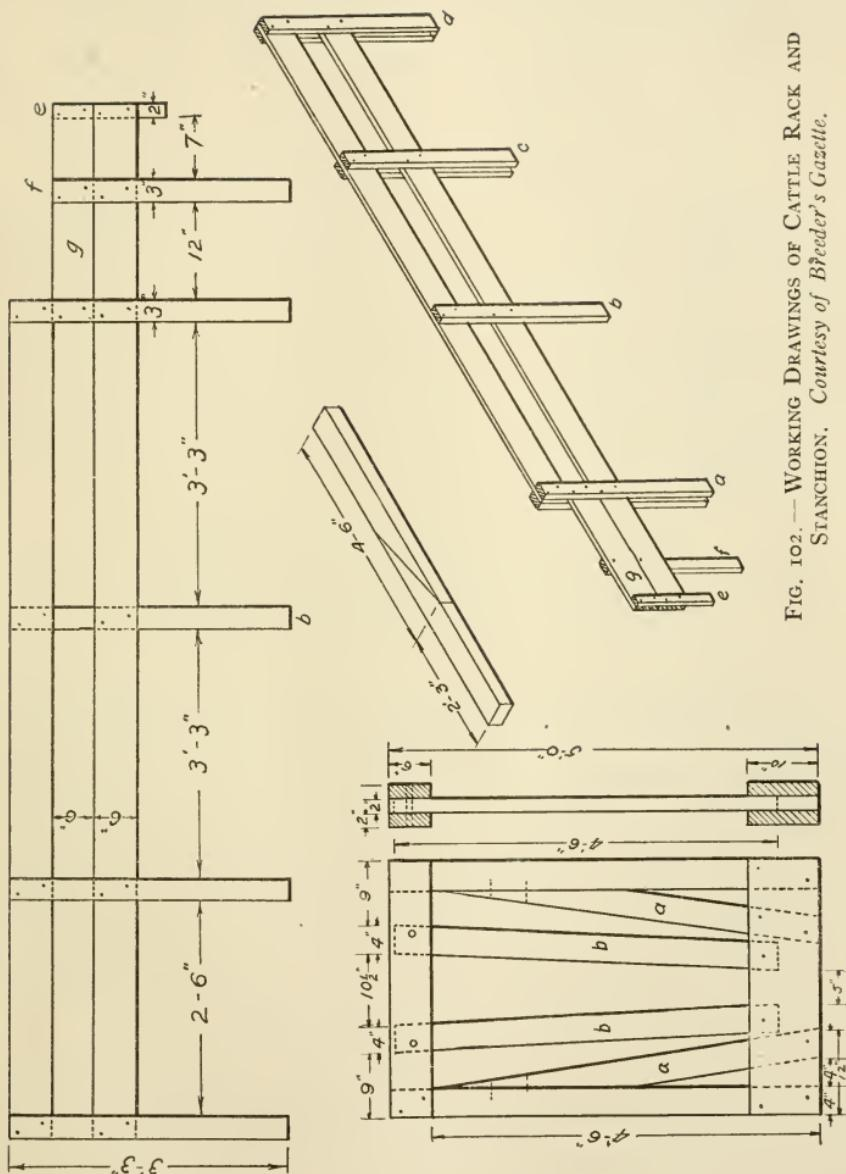

FIG. 102.—WORKING DRAWINGS OF CATTLE RACK AND
3.. Nailing strips to boards. — Locate the strips on the boards at the distances shown in the working drawing, Fig. 102. Stagger the nails so as to not split the hardwood strips. Drive the nails clear through and clinch on the inside. At *e* one short strip is nailed on the outside of each side. At *f* one strip is nailed on the inside of each side. At *b* one strip is nailed on the outside of each rack. The short strip *e* rests on the top edge of wagon box to hold front end gate of box.
4. Laying out and sawing timbers for stanchion.—A stanchion is an arrangement of bars for fastening cattle in a stall by locking timbers around their necks so they cannot get away, and yet giving them considerable freedom of motion. In sawing the braces *a*, *a*, you can save considerable lumber by laying them out in one piece instead of using two pieces each 4' 6" long. In this way you save the difference between 6' 9" and 9'. The rest of the timbers are laid out as indicated. (See Fig. 102.)